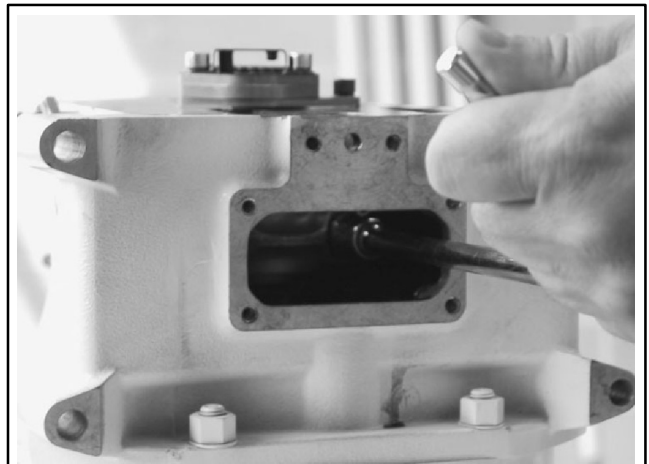

Figure 10-42 Connecting Rod Nuts
4. Using a 13 mm socket wrench, unscrew the two connecting rod nuts. Pull the connecting rod cap downwards while pushing the connecting rod upwards. See Figure 10-42.